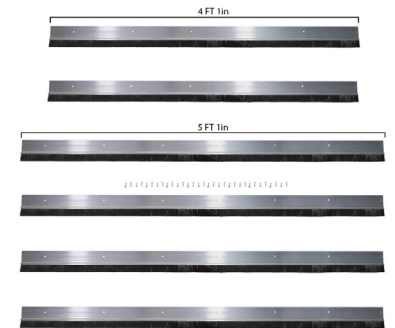

Figure 2
**Step 1:** Lay your kit components out and identify which piece is needed to install on the header of your door. If you have an 8X10 door, the header section would be 4 feet long for a retail kit, and 8 feet for a professional kit (Figure 2).